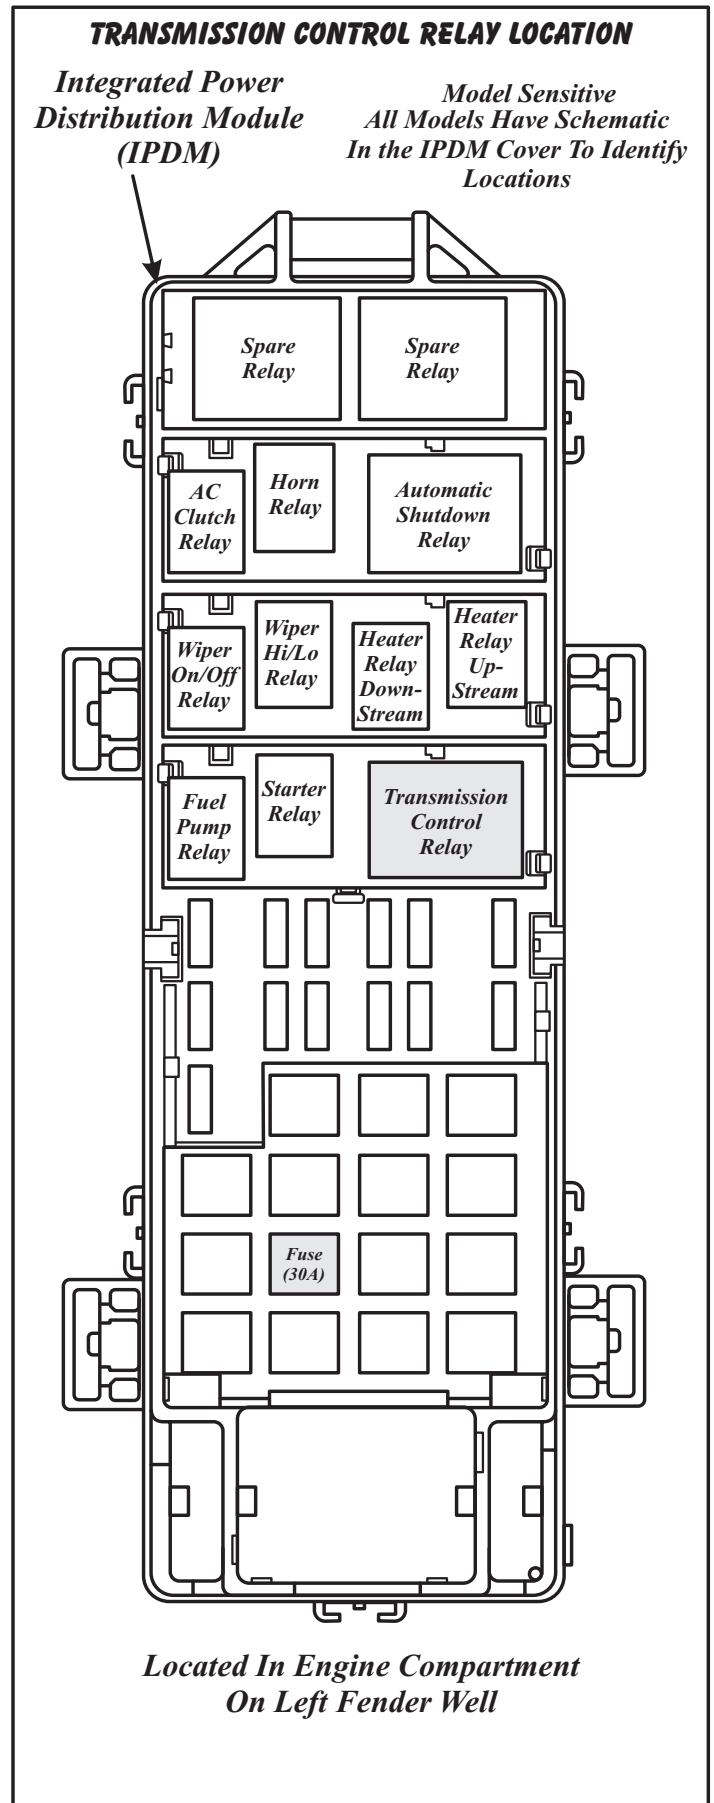

Figure 8
**Transmission Control Relay** - is located in the Integrated Power Distribution Module (IPDM), as shown in Figure 8, and receives a ground signal from terminal (C1) 18 at the TCM to close the relay. Refer to the wiring schematic in Figure 10.